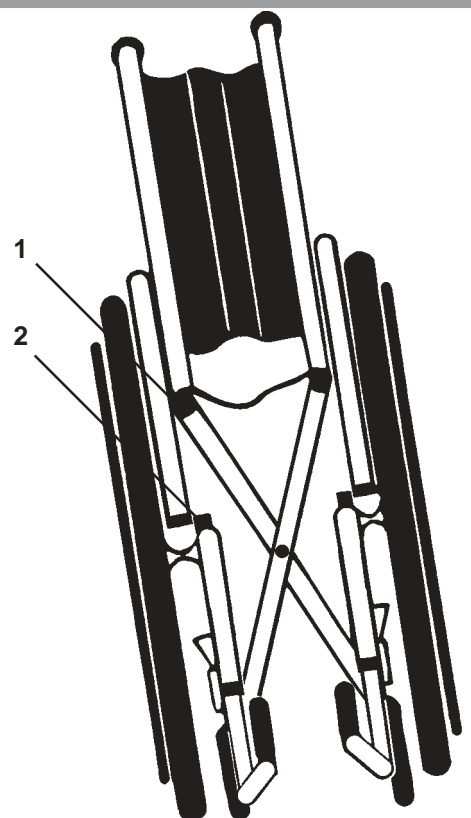

Fig. 1
Tilt the wheelchair towards you far enough to take the weight off the opposite wheel (Fig. 1). Push down with the palm of the hand on the crossbrace (1) closest to you until the wheelchair has completely opened. Allow the chair to return to an upright position on all four wheels. Complete the opening procedure by now standing in front of the chair, placing the palms of your hands on both seat rails, and pressing down making sure the seat rail snaps into the rail saddles (2).